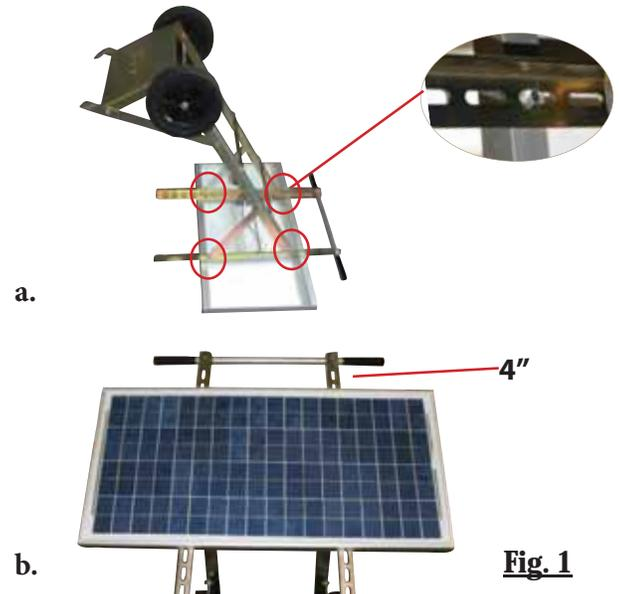

Fig. 1
Step 1: Attach left and right stabilizer legs to battery box. Be sure to face the bolts outward as shown in Fig. 1. Note: This is the only attachment where bolts should face outward.